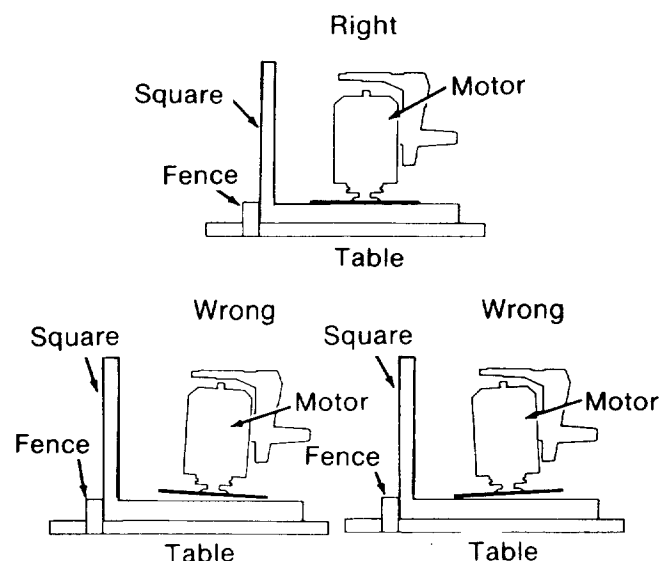

Fig. 86
8. If the square is flush with the *blade* after each rotation (Figure 86) go to step 18, or
If there is a gap between the square and the *blade* after any rotation (Figure 86) go to step 9.